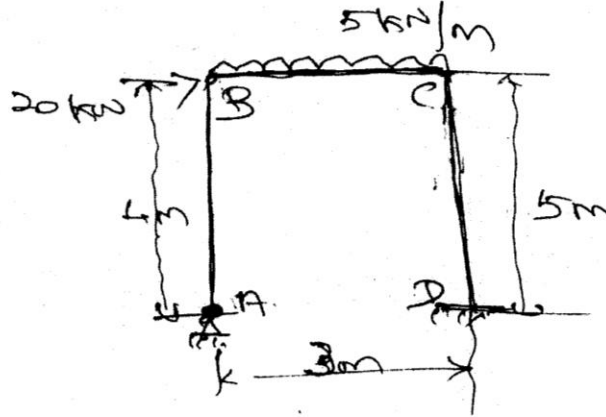

Figure-9
9. Using matrix stiffness method, analyze the portal frame shown in figure-9. Take $A = 500 \text{ mm}^2$, $I = 750 \text{ mm}^4$ and $E = 200 \text{ kN/mm}^2$.